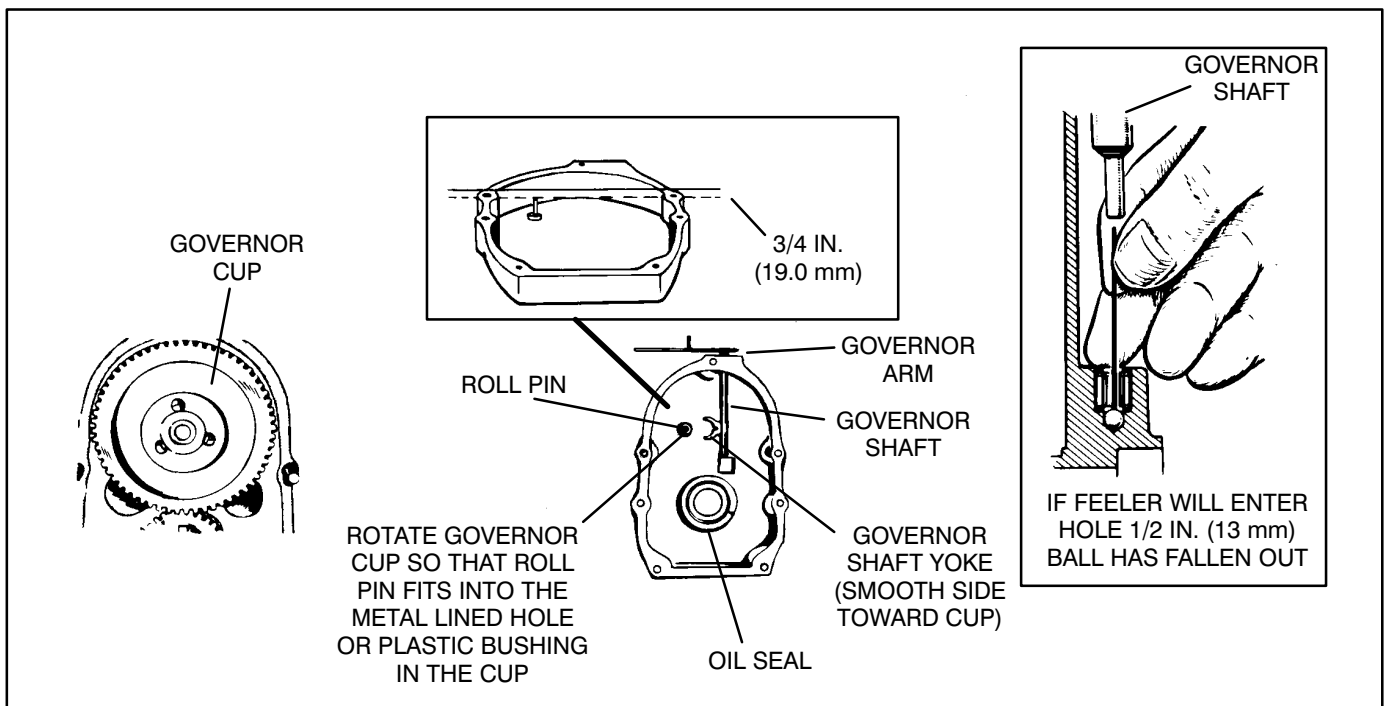

FIGURE 7-24. GEAR COVER ASSEMBLY
3. Gently tap the gear cover with a plastic-faced hammer to loosen it (see Figure 7-24).
1. Use new gaskets and apply thread sealant to the bolts when installing the gear cover. Make sure that the pin in the gear cover engages the nylon-lined (smooth) hole in the governor cup. See Figure 7-24.